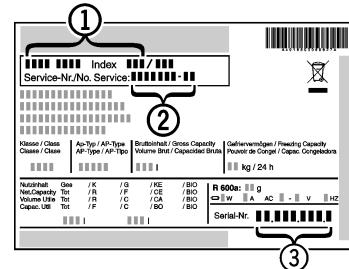

Fig. 7
- Notify the customer service, specifying the fault, appliance designation *Fig. 7 (1)*, service No. *Fig. 7 (2)* and serial No. *Fig. 7 (3)*.